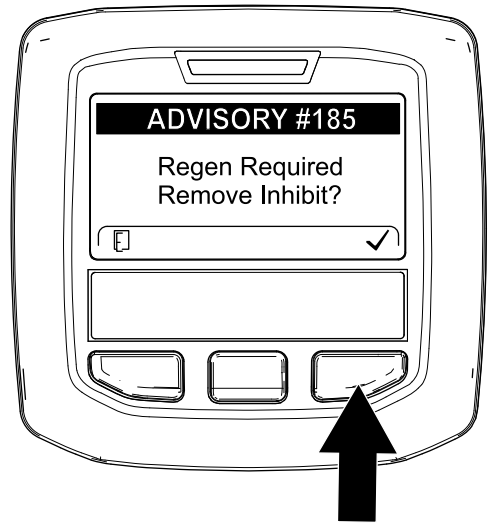

Figure 15
**Note:** If INHIBIT REGEN is set to ON, the InfoCenter displays ADVISORY #185 (Figure 15). Press button 3 to set inhibit regeneration setting to OFF and continue with the reset regeneration.